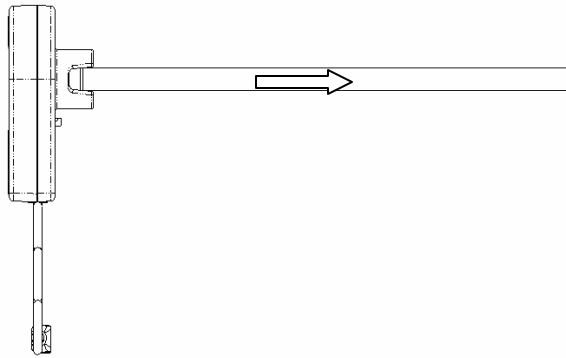

Figure 9 – Removing bulb from UV unit
6. To remove lamp bulb from UV unit, grasp the lamp unit in one hand, and pull straight apart. See Figure 9.